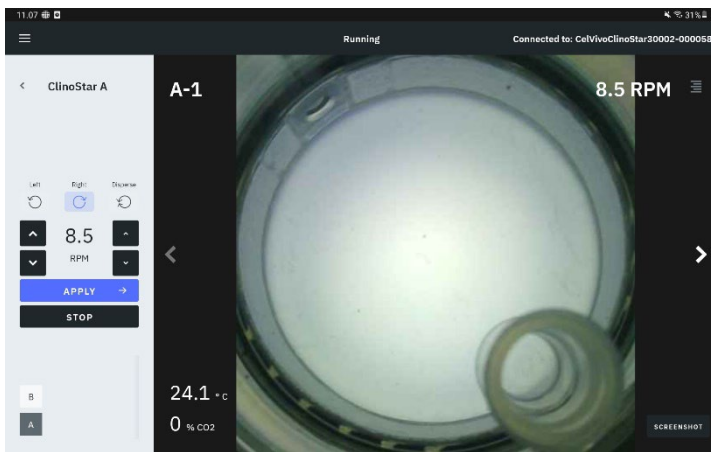

Figure 17
**Level 3** displays the live feed image for a particular ClinoReactor (figure 17)